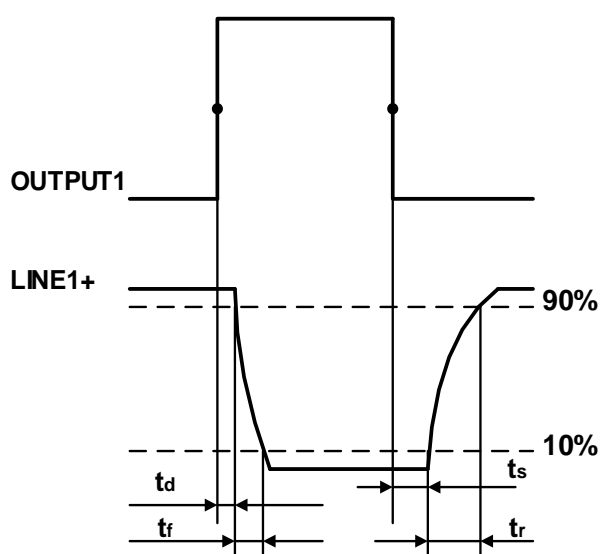

Figure 7-6 Parameter of opto-isolated output circuit
- Rising time delay = $t_r + t_d$: $< 50\mu s$ (0°C~45°C) (parameter description is shown in Figure 7-6)
- Falling time delay = $t_s + t_f$: $< 50\mu s$ (0°C~45°C) (parameter description is shown in Figure 7-6)
- Rising time delay = t_r+t_d : <20μs (0°C~45°C) (parameter description as shown in Figure 7-6)
- Falling time delay = t_s+t_f : <20μs (0°C~45°C) (parameter description as shown in Figure 7-6)